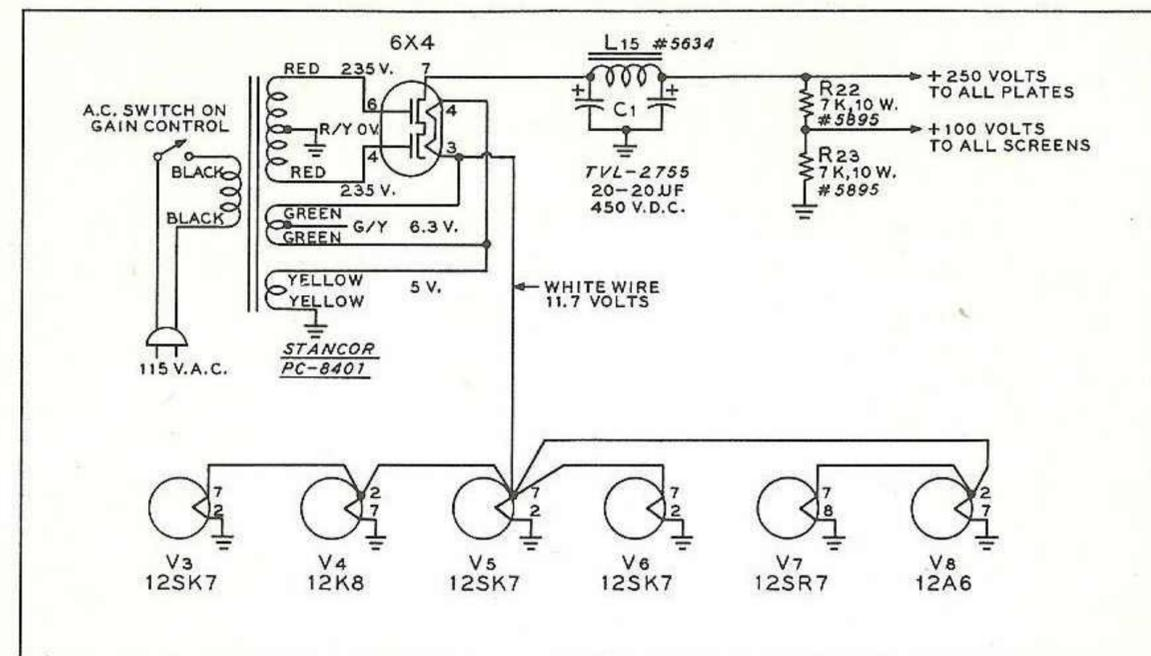

Fig. 10 Filaments of "Command" receiver are rewired in parallel to operate from seriesed 5 volt and 6.3 volt filament windings of the power transformer.
- ( ) Connect a wire from pin 7 of the 6X4 socket to one B-plus (center) terminal of the filter capacitor (C1, Figure 10). If the capacitor is mounted with a phenolic wafer, one of the shell terminals should be grounded to the receiver chassis. Trim the lugs of C1 so they do not touch L-15 when it is reinstalled.